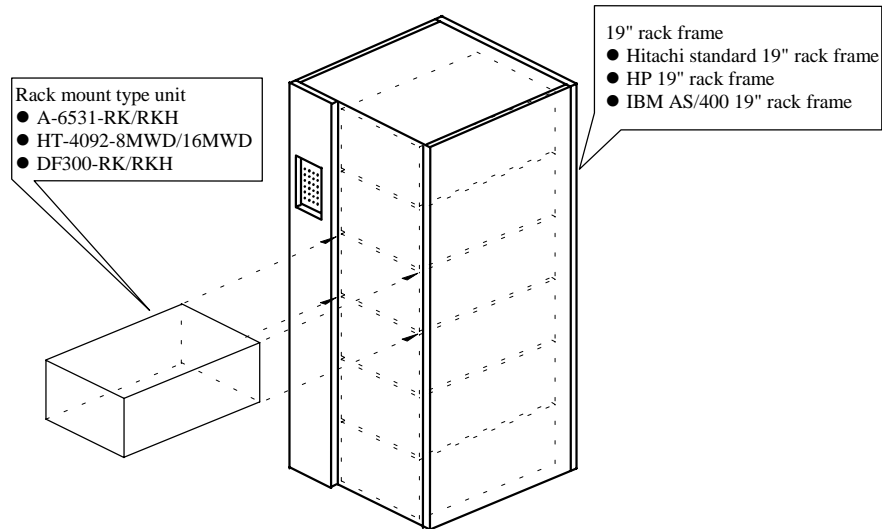

Figure 4.7.1 Installation of Rack Mount Unit (Example)
The rack mount type unit is installed in a 19" rack frame as shown in Figure 4.7.1. Before installing this unit installation of a 19" rack frame must be performed. The unit installing work differs between the case where it is installed in the Hitachi standard 19" rack frame and the case where it is mounted in another rack frame. Refer to the following procedure and related manuals for details of the mounting work.
4. Set the JP1 and JP3(SW2) according to Figure 4.7.1 and Table 4.7.1.(Set JP2(equipped on I/F ADAPTER ASSY for only Wide SCSI like DRWDS or DRWSS) with the pins 1 and 2 short-circuited.)
5. Set the JP1 and LP3(SW2) according to Figure 4.7.1.(Set JP2 (equipped on I/F ADAPTER ASSY for only Wide SCSI like DWWDS) with the pins 1 and 2 short-circuited.)